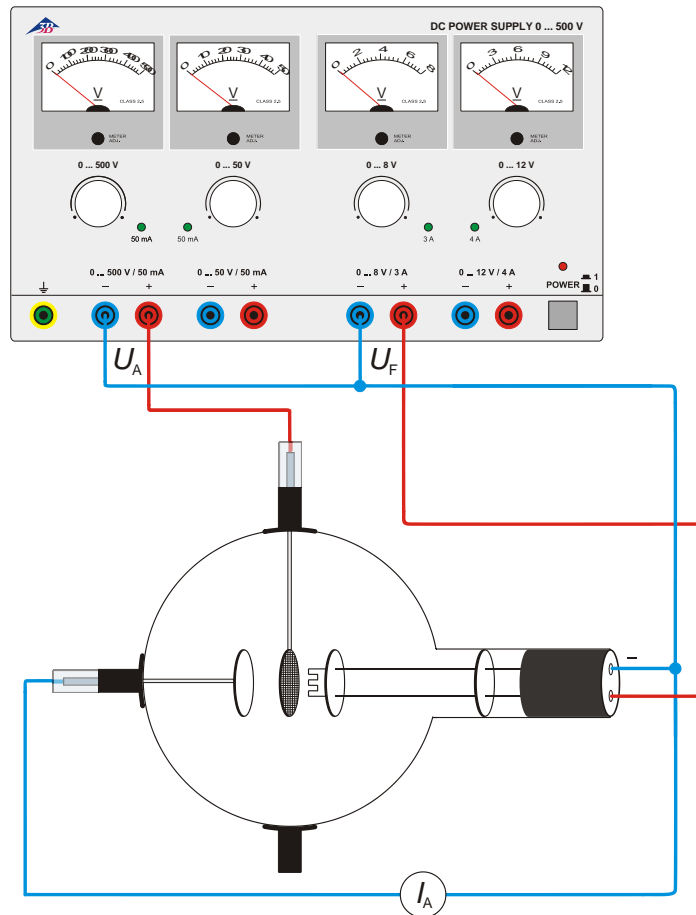

Fig. 3 Generating cathode rays
- Set up the circuit as in Fig. 3 so the grid and cathode form a diode. Connect the minus pole of the anode voltage U_A to the 4-mm socket marked with a minus.